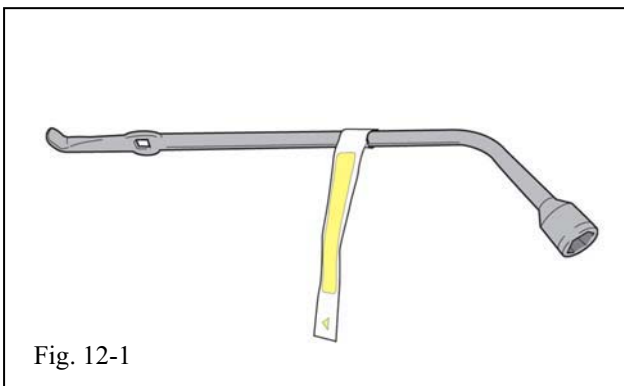

Fig. 12-1
- (b) Attach the spare tire warning label to the vehicle lug wrench as shown (Fig. 12-1) and replace the lug wrench in its storage bag and replace the storage bag in the vehicle.